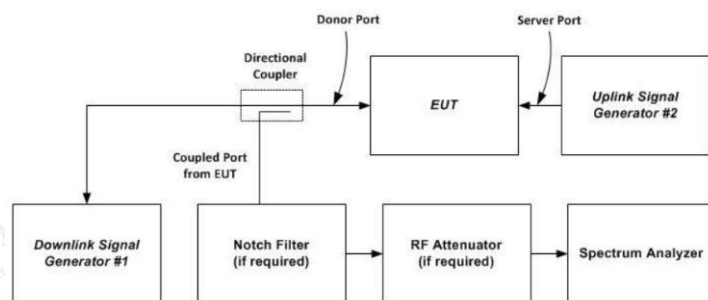

Figure 5 – Variable gain instrumentation test setup
a) Connect the EUT to the test equipment as shown in Figure 5 with the uplink output (donor) port connected to signal generator #1. Affirm that the coupled path of the RF coupler is connected to the spectrum analyzer.
k) Measure the maximum channel power and compute maximum gain when varying the signal generator #1 output to a level from  $-90 \text{ dBm}$  to  $-20 \text{ dBm}$ , as measured at the input port (i.e., downlink signal level at the booster donor port node of Figure 5), in 1 dB steps inside the RSSI-dependent region, and 10 dB steps outside the RSSI-dependent region. Report the six values closest to the limit, including at least two points from within the RSSI-dependent region of operation. See gain limit in charts in Appendix D for uplink gain requirements. Additionally, document that the EUT provides equivalent uplink and downlink gain, and when operating in shutoff mode that the uplink and downlink gain is within the transmit power off mode gain limits.
- m) Connect the EUT to the test equipment as shown in Figure 5 with the uplink output (donor) port connected to signal generator #1. Affirm that the coupled path of the RF coupler is connected to the spectrum analyzer.
- w) Measure the maximum channel power and compute maximum gain when varying the signal generator #1 output to a level from -90 dBm to -20 dBm, as measured at the input port (i.e., downlink signal level at the booster donor port node of Figure 5), in 1 dB steps inside the RSSI-dependent region, and 10 dB steps outside the RSSI-dependent region. Report the six values closest to the limit, including at least two points from within the RSSI-dependent region of operation. See gain limit in charts in Appendix D for uplink gain requirements. Additionally, document that the EUT provides equivalent uplink and downlink gain, and when operating in shutoff mode that the uplink and downlink gain is within the transmit power off mode gain limits.